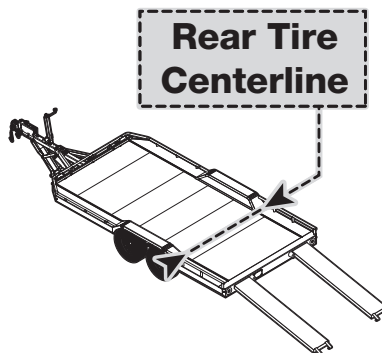

Figure 8
2. Pull both ramps (figure 8) completely out and lower to the ground for loading.
5. Keep doors closed and drive slowly up the ramp and forward on the platform until the rear tires are centered on the decal (Figure 8) or the front tires are resting firmly against the wheel stops. **DO NOT** brake quickly or ram the tire stops at the front of the platform. Shift to park and set **PARKING BRAKE**. Vehicle-in-tow tires must be turned straight ahead and fit on trailer platform without overhanging sides.